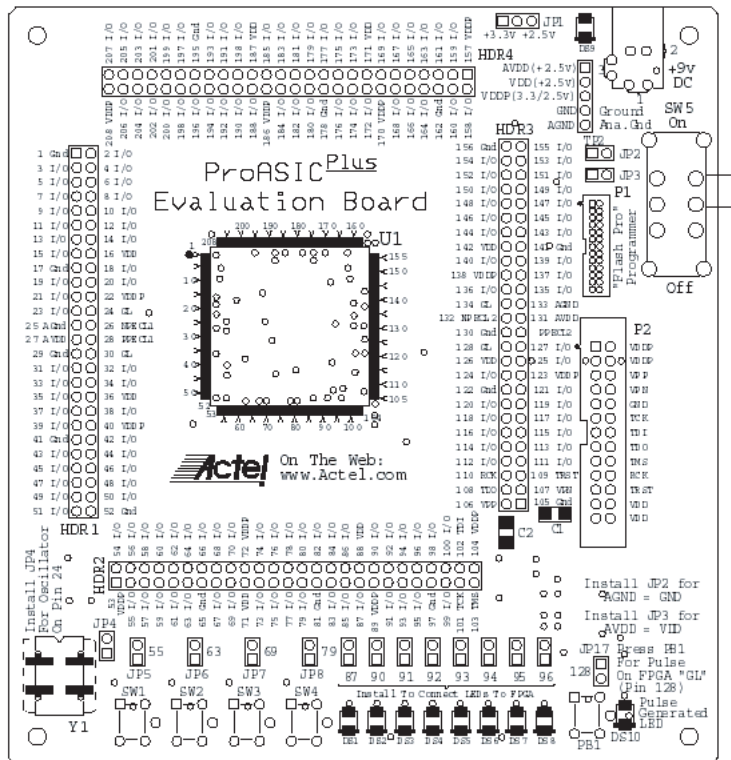

Figure 2-1. ProASIC^{PLUS} Evaluation Board: Top-Level View
Figure 2-1 illustrates a top-level view of the ProASIC^{PLUS} Evaluation board.
3. **Perform all the actions described in Table 3-1.** For locations of the switches mentioned in Table 3-1, refer to Figure 2-1 on page 9.